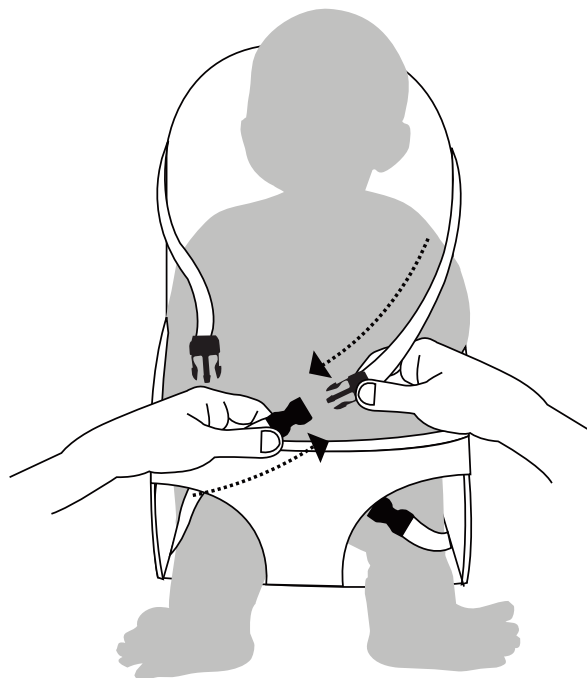

FIGURE 24
**Note:** Wrap the seat belt over the child and securely lock the buckle. Adjust the belt as needed as shown in Figure 24.